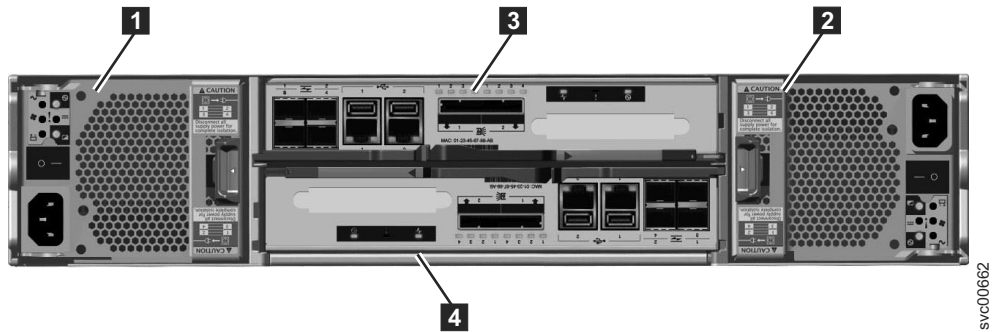

Figure 3. Rear view of a model 2076-112 or a model 2076-124 control enclosure
Figure 3 on page 6 shows the rear view of a control enclosure and identifies the location of the power supply units and the canisters.
- Two canisters are housed in the middle of the enclosure. Each canister is known as an expansion canister. The upper canister, as shown in Figure 3, is canister **3**, and the lower canister is canister **4**. Canister **3** is top side up, and canister **4** is inverted, or top side down.